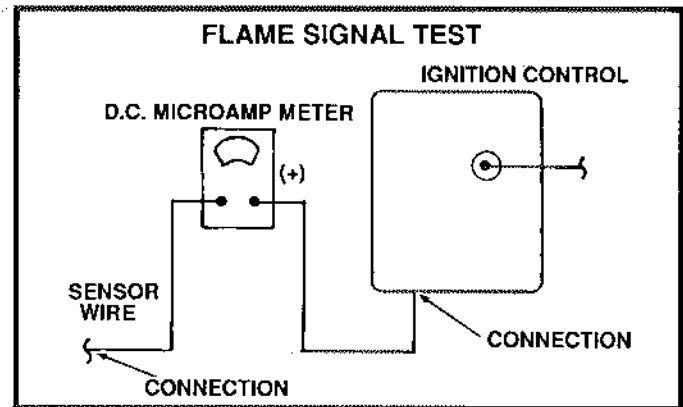

FIGURE 26
1- Place the meter in series between the ignition control and sensor wire. Connect the positive (+) lead of the meter to the ignition control sensor connection and negative (-) lead of the meter to the sensor wire. See figure 26.
- 1- Drill size "R" or 1 1/32 in. hole on top of the exhaust outlet PVC elbow (inside unit cabinet) and tap 1/8-27 NPT as shown in figure 26. This hole is used as the CO2/CO test port.